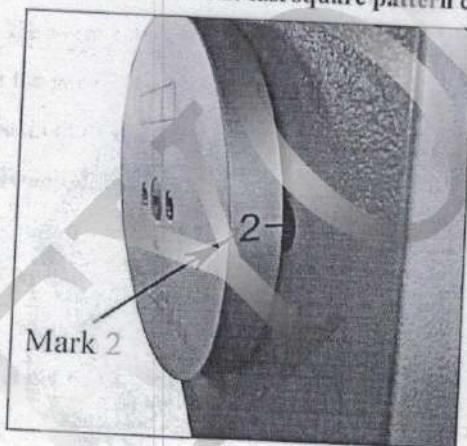

Fig.8
- After square pattern operation, stop machine when the marker '2' on pattern cam is located towards operator (as shown in Fig.8), then set the feeding shift at '2', Crossed pattern will be set.